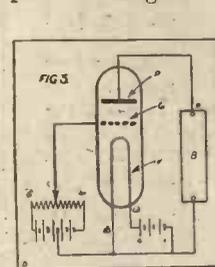

FIG. 3.
Now turn to Fig. 3, which is a curve showing (1) for a fine mesh grid, and (2) for an open mesh grid, the relation between the